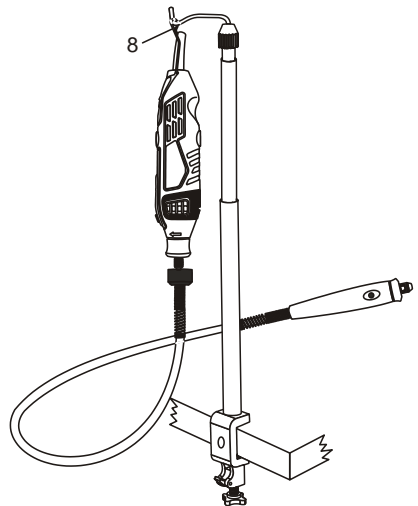

Fig. 8
7. Using the hang loop on the rotary tool (8) hang rotary tool from the stand (Fig. 8).